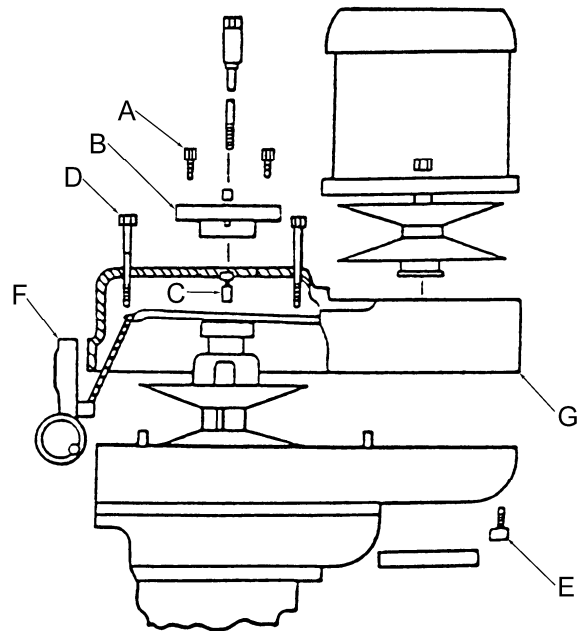

Figure 17
3. Remove the three screws (A, Fig. 17). Thread the screws into the adjacent tapped holes and back off the cover (B, Fig. 17).
4. Remove the two screws and bushings (C, Fig. 17) from the tilting plate.
5. Remove four screws (D, Fig. 17) and one screw (E, Fig. 17).
6. Remove four screws from the variable speed housing (F, Fig. 17).
7. Remove the top housing (G, Fig. 17) and tap to clear dowels.